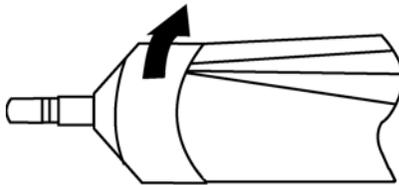

Figure 3: Probe nose cone removal.
2. Rotate the nose cone portion of the probe counterclockwise until the nose cone is completely separated from the probe (Figure 3).